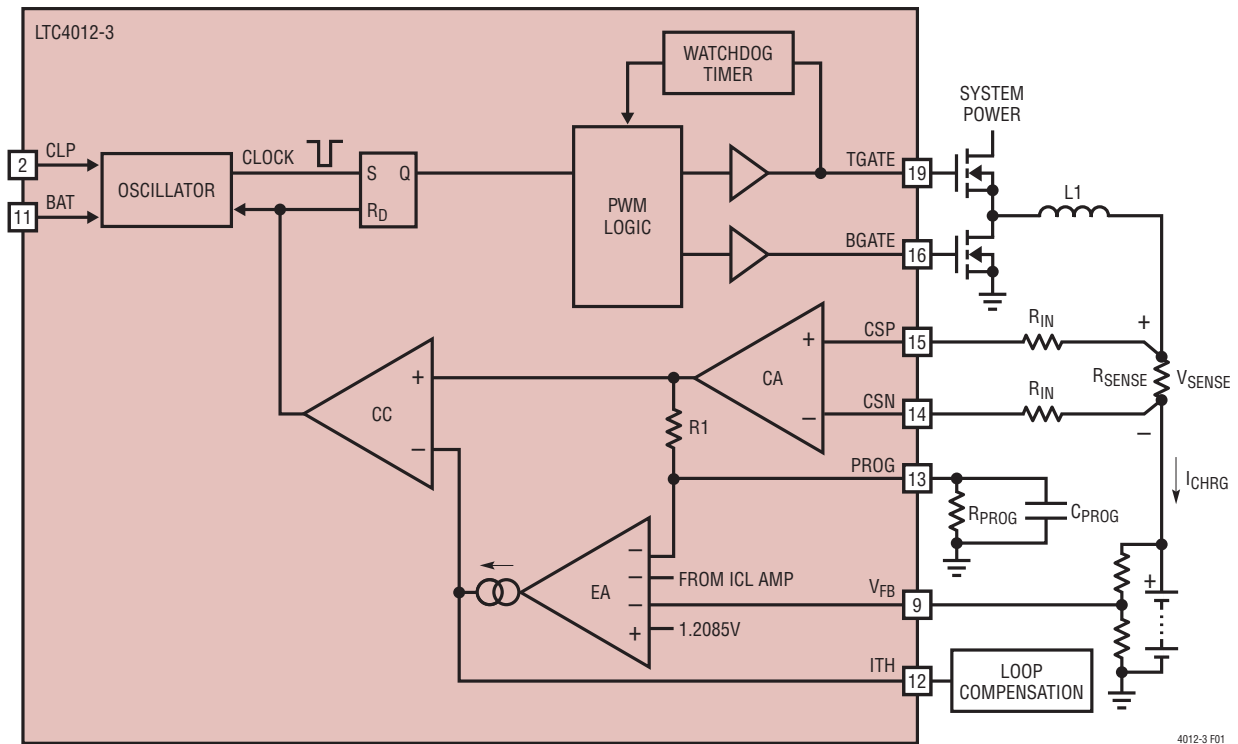

Figure 1. PWM Circuit Diagram
**CSN (Pin 14):** Charge Current Sense Negative Input. Place an external input resistor ( $R_{\text{IN}}$ , Figure 1) between this pin and the negative side of the charge current sense resistor. Operating voltage ranges from (BAT – 50mV) to (BAT + 200mV).
**CSP (Pin 15):** Charge Current Sense Positive Input. Place an external input resistor ( $R_{\text{IN}}$ , Figure 1) between this pin and the positive side of the charge current sense resistor. Operating voltage ranges from (BAT – 50mV) to (BAT + 200mV).
The LTC4012-3 is a synchronous step-down (buck) current mode PWM battery charger controller. The maximum charge current is programmed by the combination of a charge current sense resistor ( $R_{\text{SENSE}}$ ), matched input resistors ( $R_{\text{IN}}$ , Figure 1), and a programming resistor ( $R_{\text{PROG}}$ ) between the PROG and GND pins. Battery voltage is programmed with an external resistor divider between FBDIV and GND. In addition, the PROG pin provides a linearized voltage output of the actual charge current.
When the LTC4012-3 is charging, the voltage on the PROG pin varies in direct proportion to the charge current. Referring to Figure 1, the nominal PROG voltage is given by:
The LTC4012-3 uses a synchronous step-down architecture to produce high operating efficiency. The nominal operating frequency of 550kHz allows use of small filter components. The following conceptual discussion of basic PWM operation references Figure 1.